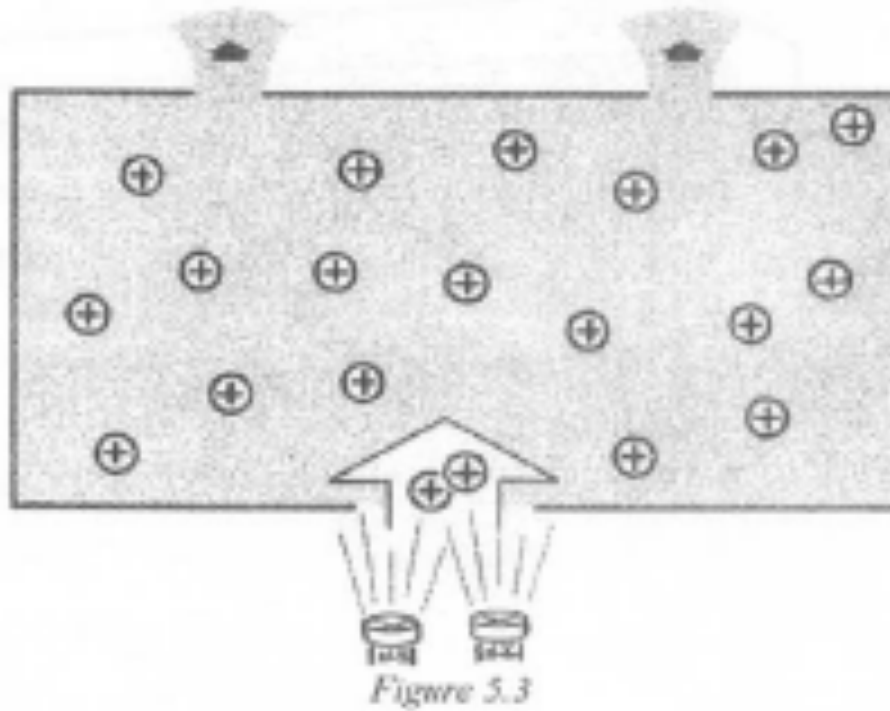

Figure 5.3
- However, for large entrance openings, multiple blowers in a parallel configuration (*Figure 5.3*) should be used due to their combined ability to cover the larger opening with pressurized air.